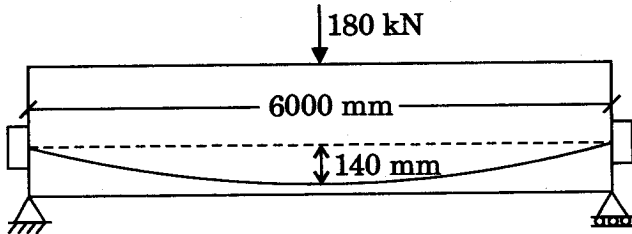

Figure 1
4. A prestressed concrete beam 400 mm wide and 600 mm deep has a span of 6 m. The beam is prestressed with a tendon bent as shown in Figure 1. There is a central concentrated load of 180 kN acting on the beam. Effective prestressing force is 1200 kN. Calculate the extreme fibre stresses at mid span taking into account the self weight of beam also. 14